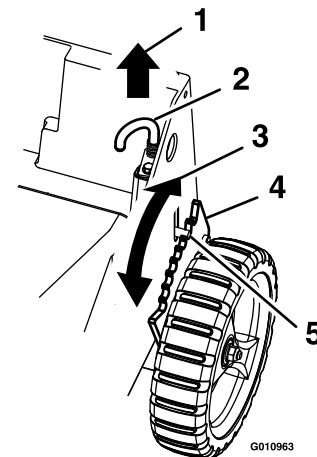
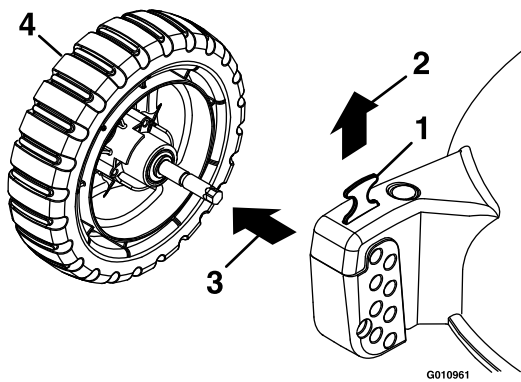

Figure 16
Figure 17
3. Set all four wheels to the 2 1/2 inches (6.4 cm) cutting height (see Figure 16 and Figure 17)
1. Pull the wheel height adjustment rod upward to release the pin from the notch in the adjustment bracket (Figure 16).
1. Pull up on the height adjuster and pull the front wheel shaft assembly outward as shown in Figure 17.